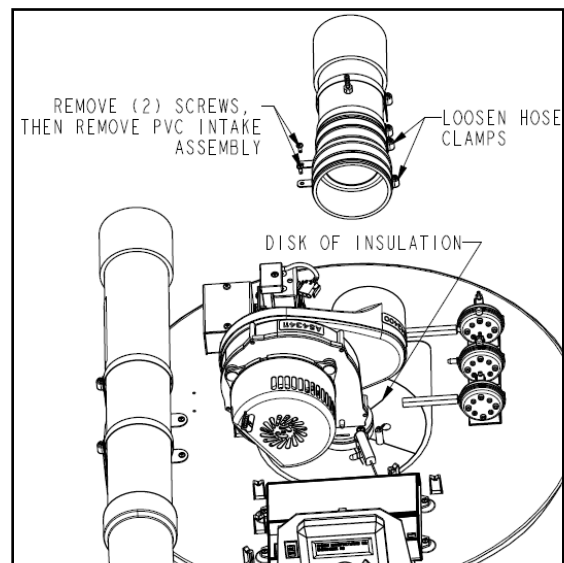

Figure 2
- a. Use a flat head screwdriver or 5/16 nut driver to loosen the hose clamp around the rubber boot that connects the PVC Intake assembly to the burner assembly. Use a #2 Phillips head screwdriver to remove the mounting screws for the PVC Intake mounting bracket and remove the Intake and bracket from the heater. (Figure 2)